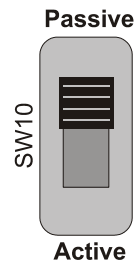

Figure 4.2 20mA Mode Switch
- After the current loop is wired, ACTIVE or PASSIVE mode must be selected (SW 10) on the controller board. See Figure 4.2.